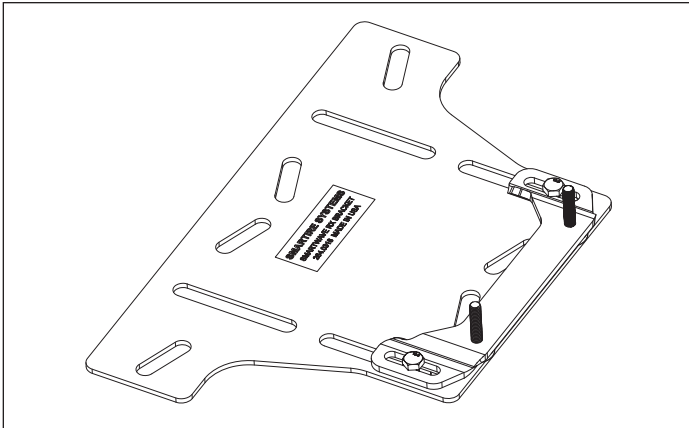

Figure 7 - Adapter Bracket
1. Mount the provided adapter bracket in the location where the original ECU was mounted. The studs should be in the forward location where the original harness entered the ECU. Leave the attaching bolts loose. See Figure 7.